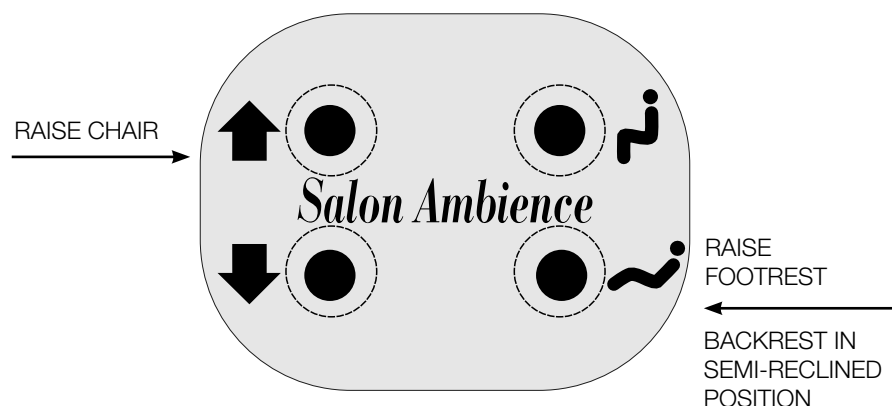

fig.4 Chair and footrest raising
- 11_ Lift the chair using the appropriate push-button panel keys as shown in figure 4, so that the operator's arms are free and he can take a natural position while washing hair. Each key has to be held down to command the actuator motion to make the upward movement begin. To stop the upward movement, release the command key.